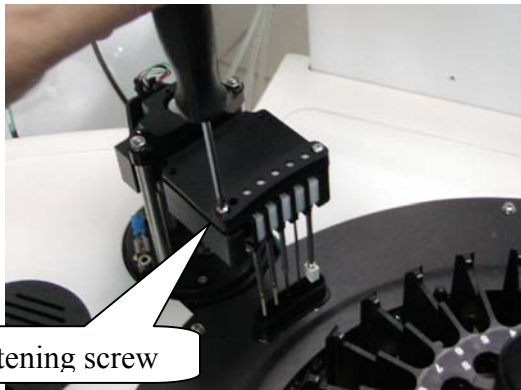

Fig. 2
3. Remove the top cover of the washing station unscrewing the four fastening screws (Fig. 2).